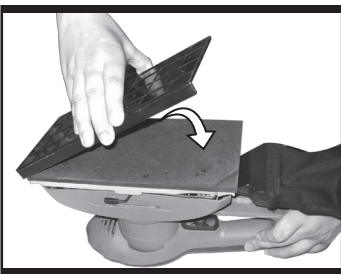

Fig. 4
If using sanding paper without dust holes, use the paper punch to perforate the holes to ensure correct dust extraction. Position the punch (10) over the baseplate with the punch sides on the edges of the baseplate (See Fig. 4). Press the punch into the baseplate to punch holes into the sanding paper. Then remove the punch and check all the holes have been formed correctly.